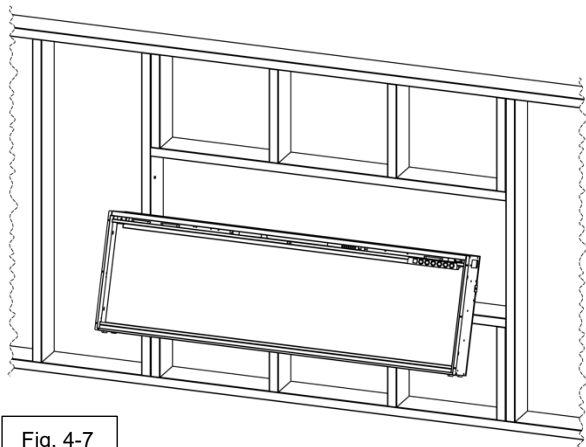
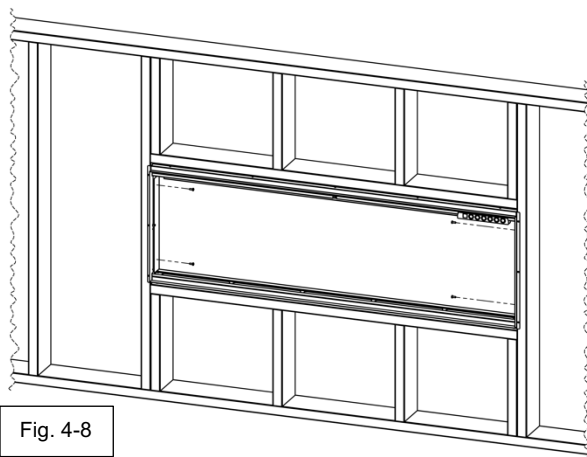

Fig. 4-7
Fig. 4-8
- Insert the appliance in the opening (Fig. 4-7) and then secure it by installing 4 screws (A) into the slots on the inside of the fireplace (Fig. 4-8).